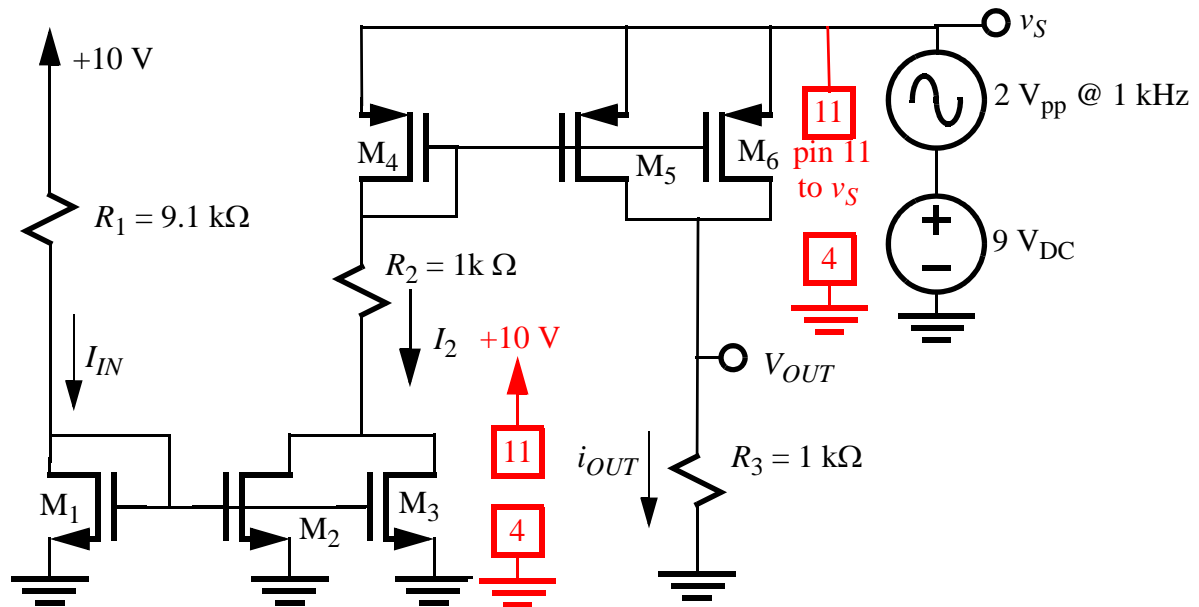

Figure 6) Power supply noise and current source behaviour.
4. Investigate power supply rejection. To do this, connect the sources of the PMOS mirror to a 1 Vp, 1 kHz sine wave in series with a 9 VDC source, as shown in Fig. 6. Display  $v_s$  and  $v_{OUT}$  on the oscilloscope and record them using a scope capture in a file labeled PSRR.png (save the file as a portable network graphics file or “.png” file). Determine the amplitude of the 1 kHz sine wave on both  $v_s$  and  $v_{out}$ . These signals are known as the **supply ripple** and the **output ripple** respectively.